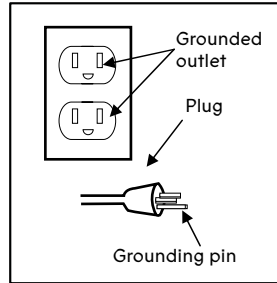

Figure 1
J. POWER CORD: This product is for use on a nominal 120-volt circuit and should be grounded. A cord with a grounding plug must be used. Make sure the product is connected to an outlet having the same configuration as the plug (see Figure 1). No adapter should be used with this product.